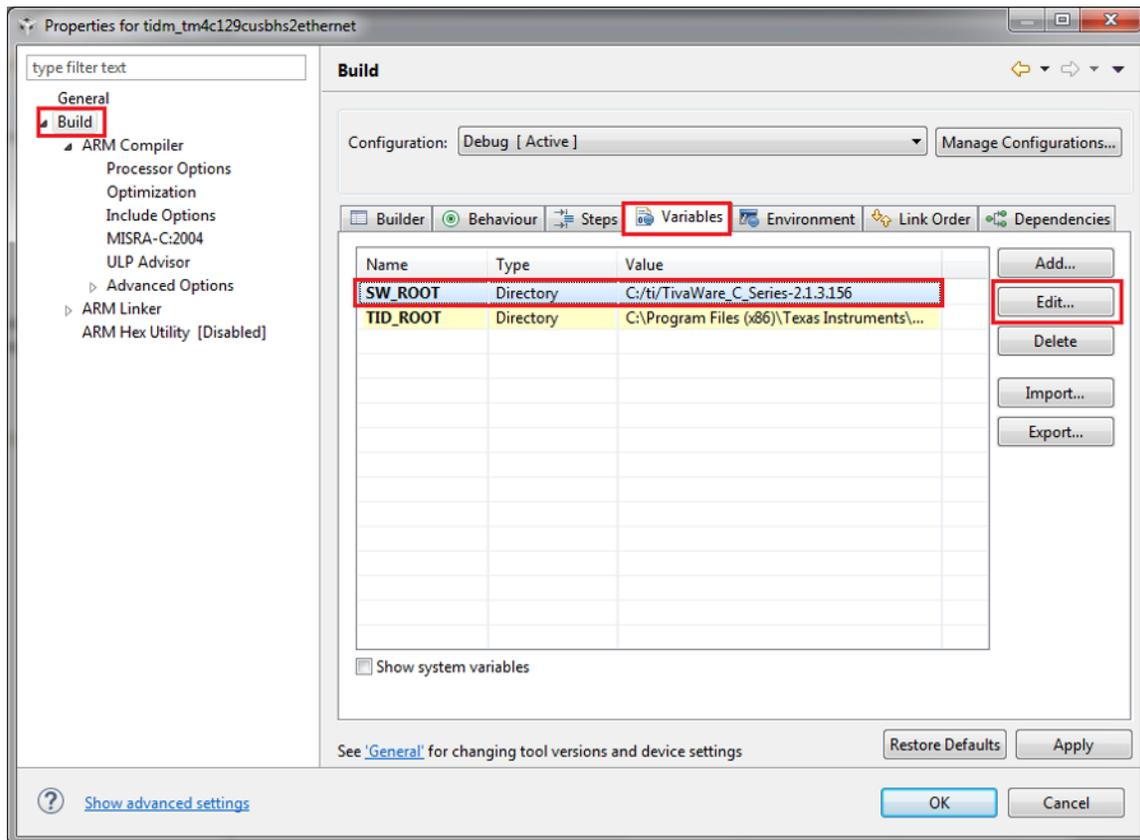

Figure 13. Update the Environment Variables
- Before building the projects, ensure the variable SW_ROOT points to the correct directory where the TivaWare 2.1.3 has been installed and that TID_ROOT points to the correct directory where the project collaterals have been installed. To view and/or change the variable, right-click on the project and click on *Show Build Settings*. In the pop-up window, click on *Build*. Click on the *Variables* tab to view the value of SW_ROOT and/or TID_ROOT. If the path shown is different compared to the path on the machine, where the opus source code has been extracted, select the variable and click on *Edit...* to change the path (see Figure 13).